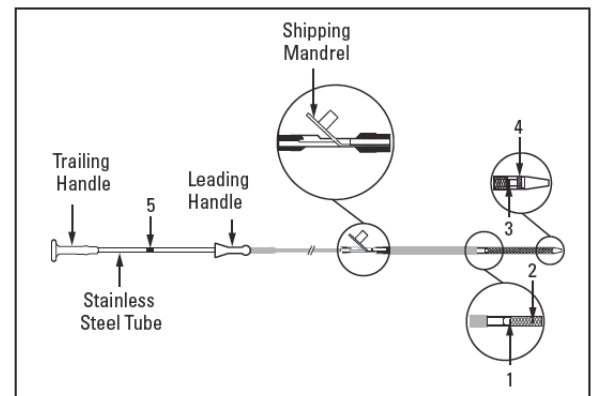

Figure 2. WallFlex Biliary RX Stent System
The delivery system is a coaxial tube design. The exterior tube is used to constrain the stent before deployment and reconstrain the stent, if stent repositioning is necessary, after partial deployment. The exterior tube has a clear section so that the constrained stent is visible. A yellow transition zone on the inner tube of the delivery system is visible between the stent and the blue outer sheath. There are four radiopaque (RO) markers to aid in the deployment of the stent while using fluoroscopy (Figure 2). There are two RO markers on the inner tube of the delivery system identifying the ends of the constrained stent (Figure 2, marker 1 and 3). Between these RO markers is an additional RO marker that indicates at what point reconstraint is no longer possible (Figure 2, marker 2). The fourth RO marker at the leading end of the exterior tube indicates how far the stent has been deployed (Figure 2, marker 4). There is one visual marker on the interior tube between the handles to aid in the deployment of the stent (Figure 2, marker 5). The visual marker indicates the point at which reconstraint is no longer possible. The interior tube has a single central lumen to accommodate a 0.035 in (0.89 mm) guidewire.
Note: DO NOT remove the shipping mandrel from the leading end of the device (Figure 2), this will help facilitate guidewire access.